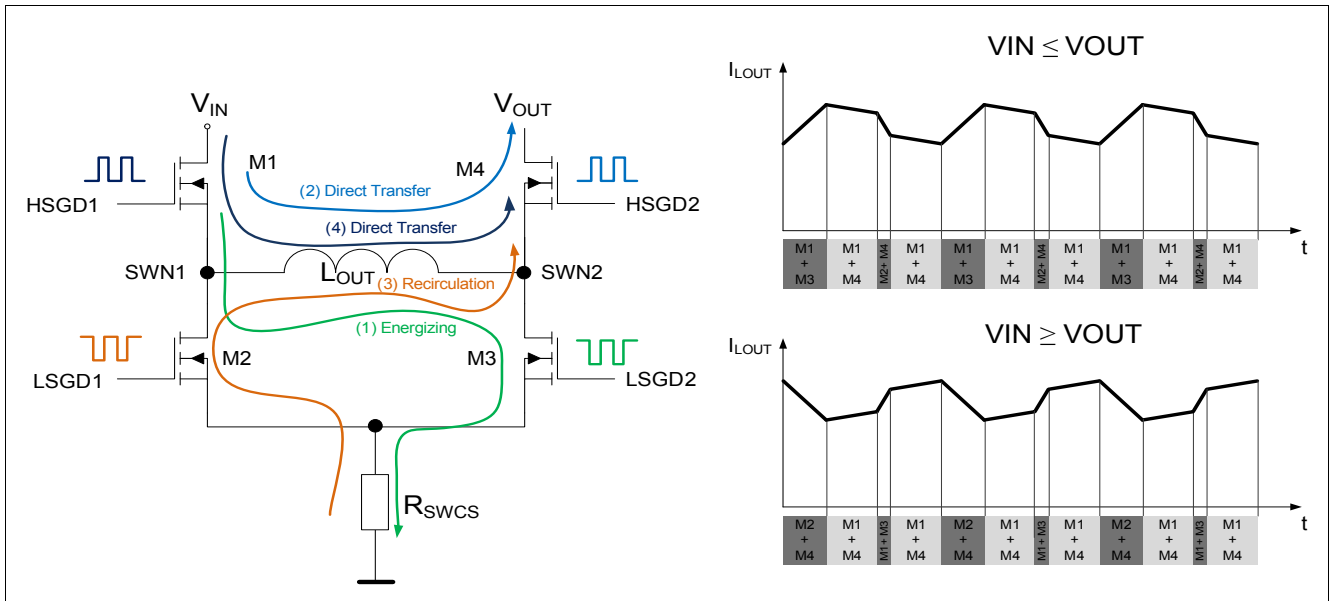

Figure 14 4 switches H-Bridge architecture in BUCK-BOOST mode
- The two buck boost waveforms and switching behaviors are displayed in Figure 14 below.